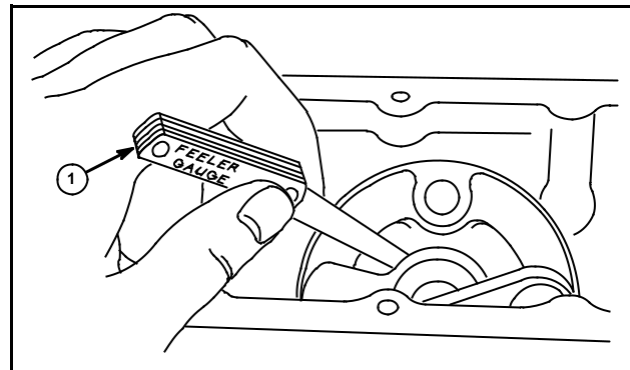

Fig. 24
With one .020" (.51 mm) thick gasket and magneto bearing support in place, use a feeler gauge (1) to measure end play. End play should be .002 – .008" (.05 – .20 mm), Fig. 24.